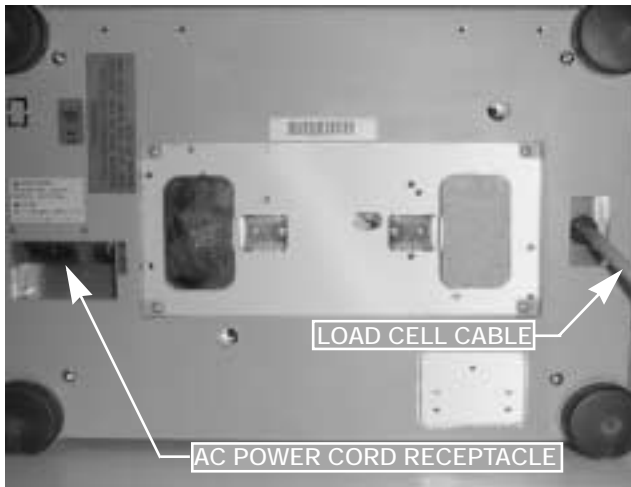

Figure 2-4. Location of AC Power Cord Receptacle and Load Cell Cable
1. Connect female end of AC power cord (Figure 2-4) under scale base.